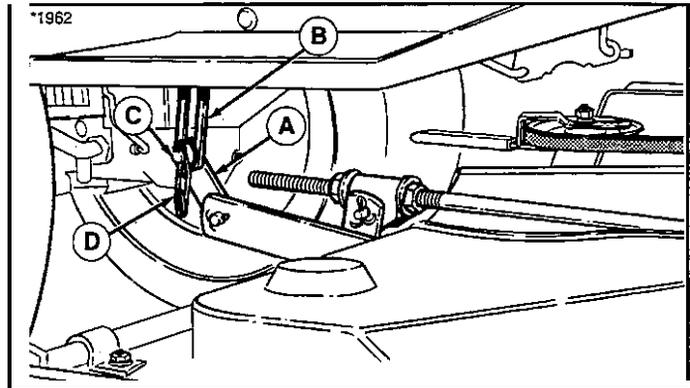

Figure 7. Lift Arms
4. Disconnect the mower lift arm from the tractor lift arm (A, Figure 7). Re-install washer and safety clip.